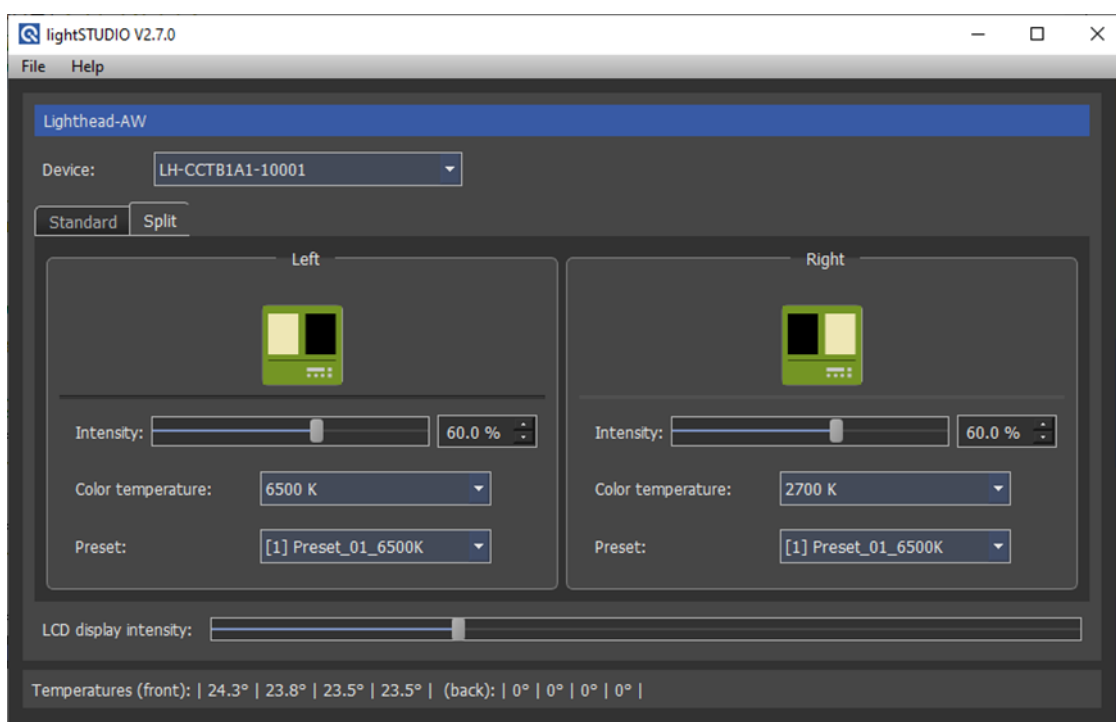

Figure 8-2 - User interface of the Split lightSTUDIO AW Head of the lightSTUDIO software V2.7.0
2. Standard lighthead/split lighthead: The user can control all LED modules in the system with the standard lighthead. The "Split Lighthead" option can be used to control the split function of the device (see Figure 8-2).
The user interface in "Split Lighthouse" mode looks similar to the "Standard Lighthouse" mode (see Figure 8-2). In "Split Lighthouse" mode, the "Split" function of the device is activated and controlled. It is impossible to change a preset's name in this mode.